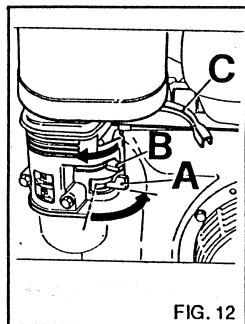

FIG. 12
- 1) Set the fuel tap lever A in ON position (fig. 12).
- 2) Set the choke lever B in start position (fig. 12). If the engine is warm or there is a high environment at temperature, this operation is not necessary.
- 4) Once the engine has been started, return the choke lever B (fig. 12) to its original position.
- 2) Set the fuel tap lever A in OFF position (fig. 12).